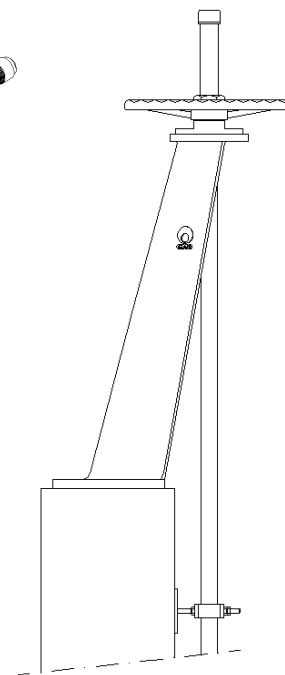

Fig. 12
- Tilting stand available on request (Fig. 12).